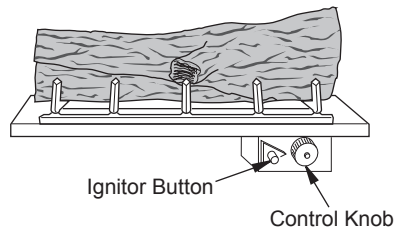
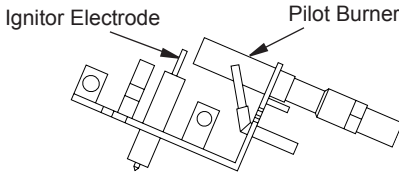

Figure 26 - Control Knob and Ignitor Button Location
Figure 27 - Pilot
3. Turn control knob clockwise ↻ to the OFF position (see Figure 27).
4. Wait five (5) minutes to clear out any gas. Then smell for gas, including near the floor. If you smell gas, STOP! Follow "B" in the safety information, column 1. If you don't smell gas, go to the next step.
5. Turn control knob counterclockwise ↺ to the PILOT position. Press in control knob for five (5) seconds (see Figure 26).